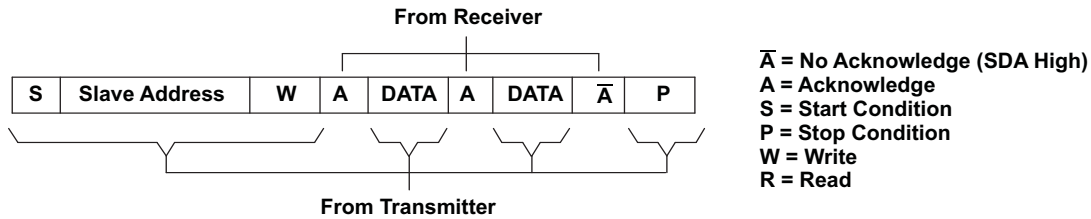
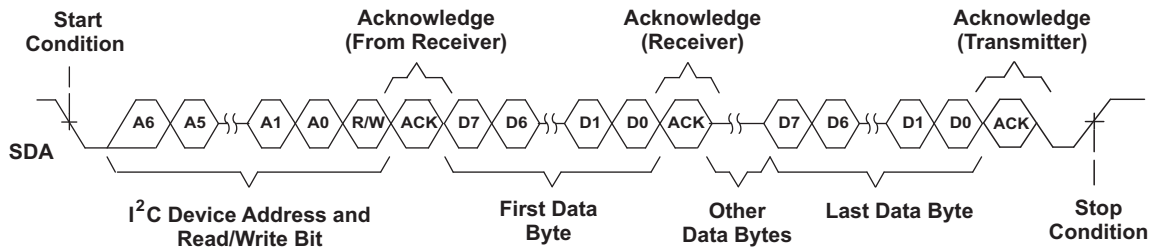
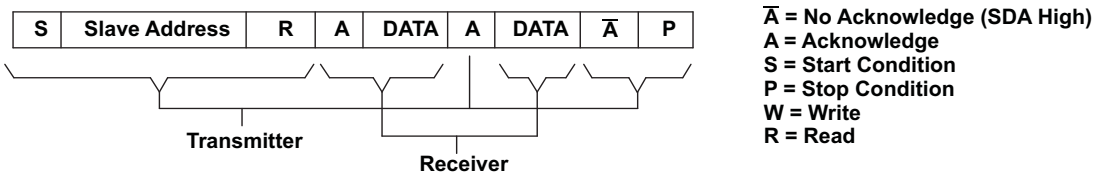
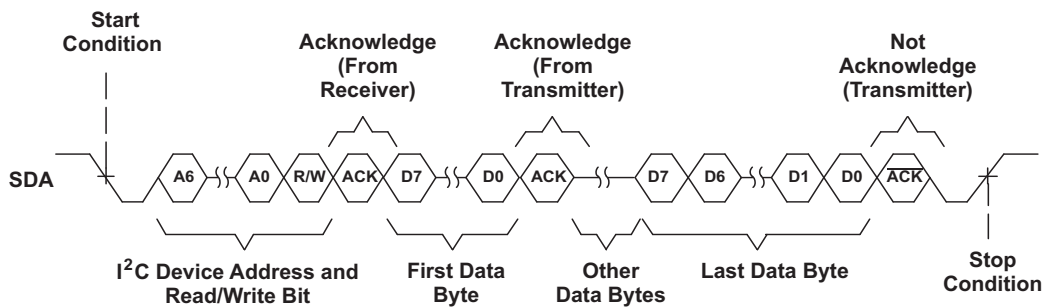

Figure 75. I2C Write Cycle
Figure 76. Multiple Byte Write Transfer
Figure 77. I2C Read Cycle
Figure 78. Multiple Byte Read Transfer
During a write cycle, the transmitting device must not drive the SDA signal line during the acknowledge cycle, so that the receiving device may drive the SDA signal low. After each byte transfer following the address byte, the receiving device pulls the SDA line low for one SCL clock cycle. A stop condition is initiated by the transmitting device after the last byte is transferred. An example of a write cycle can be found in Figure 75 and Figure 76. Note that the THS7303 does not allow multiple write transfers to occur. See the Example: Writing to the THS7303 section for the proper procedure on writing to the THS7303.
During a read cycle, the slave receiver acknowledges the initial address byte if it decodes the address as its address. Following this initial acknowledge by the slave, the master device becomes a receiver and acknowledges data bytes sent by the slave. When the master has received all of the requested data bytes from the slave, the not acknowledge (A) condition is initiated by the master by keeping the SDA signal high just before it asserts the stop condition. This sequence terminates a read cycle, as shown in Figure 77 and Figure 78. Note that the THS7303 does not allow multiple read transfers to occur. See the *Example: Reading from the THS7303* section for the proper procedure on reading from the THS7303.
The THS7303 operates using only a single-byte transfer protocol similar to Figure 75 and Figure 77. The internal sub-address registers, and the functionality of each, are found in Table 2. When writing to the device, it is required to send one byte of data to the corresponding internal sub-address. If control of all three channels is desired, then the master must cycle through all the sub-addresses (channels) one at a time; see the Example: Writing to the THS7303 section for the proper procedure of writing to the THS7303.